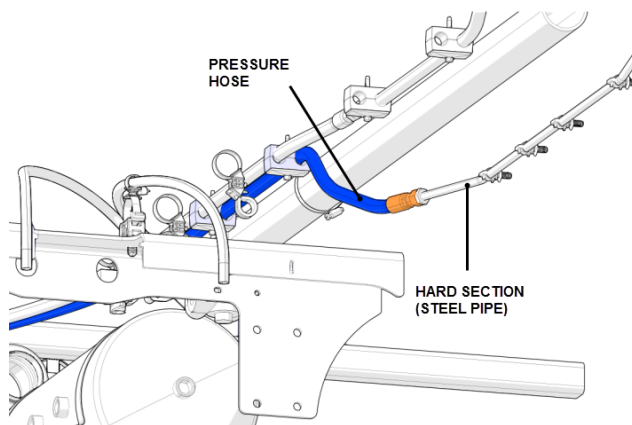

FIGURE 7
10. Locate the discharge hose (pressure) on the curb side of the rear wheel well. It is connected to a hard section (metal pipe) which is from the steering pump (fig.7).